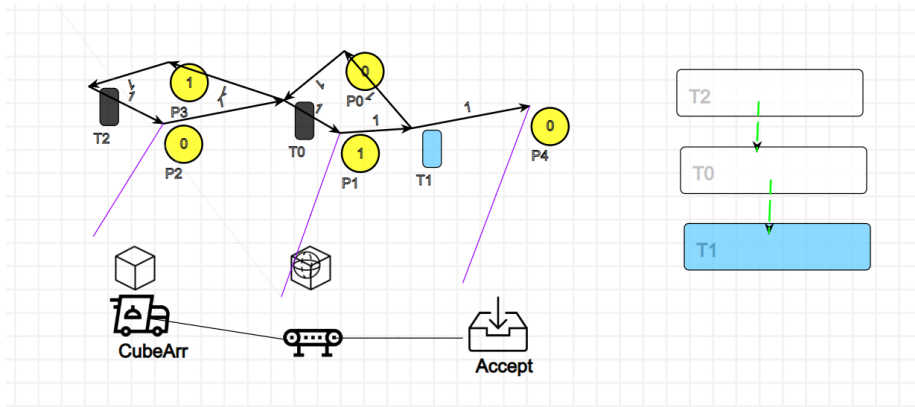

Figure 1: An example of a simple assembly line and the created Petri-Net.
- Figure 1 shows a simple production system and the generated Petri-Net mid-simulation.